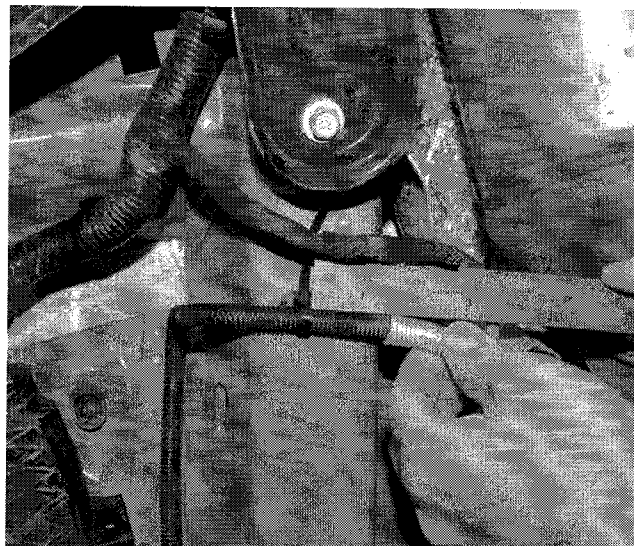

Fig. 4 MEASURE FROM THE FOIL FOR TIE LOCATION
6. Install new rectangular barbed clip PN 52029757AA to DEF supply line a measured 1.5" (38mm) down from foil on the convolute on supply line (Fig. 4). Do NOT install the rectangular barbed clip into the frame at this time.